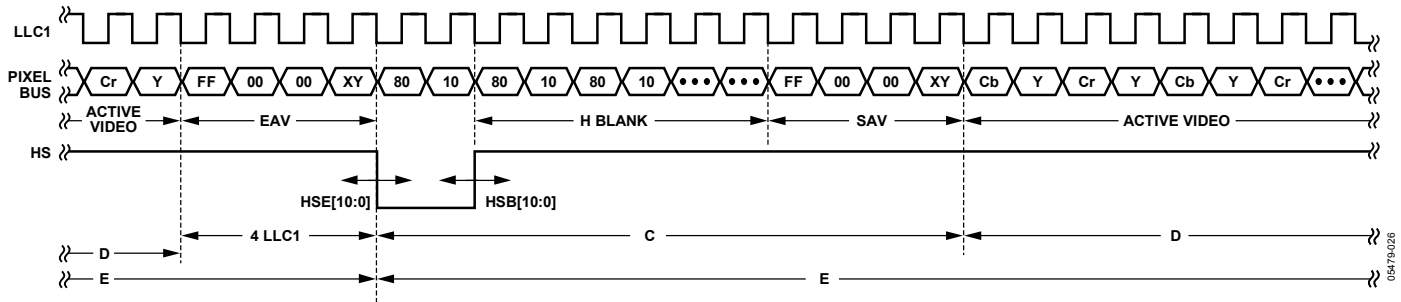

Figure 26. HS Timing
The position of this edge is controlled by placing a binary number into HSB [10:0]. The number applied offsets the edge with respect to an internal counter that is reset to 0 immediately after EAV Code FE, 00, 00, XY (see Figure 26). HSB [10:0] is set to 0000000010, which is two LLC1 clock cycles from Count [0].
**Table 61. HS Timing Parameters (see Figure 26)**
The position of this edge is controlled by placing a binary number into HSE [10:0]. The number applied offsets the edge with respect to an internal counter that is reset to 0 immediately after EAV Code FF, 00, 00, XY (see Figure 26). HSE is set to 0000000000, which is 0 LLC1 clock cycles from Count [0].